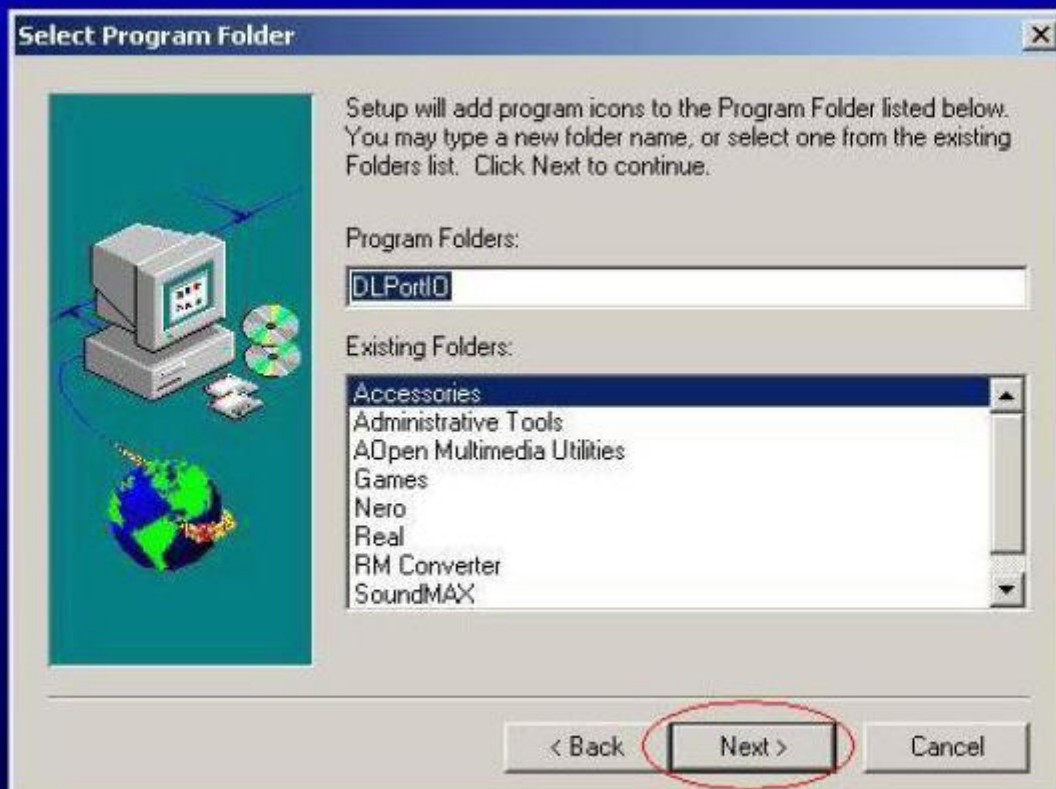

Fig. 0.4
0.4 Keep on press “ Next “ 4 times to go through the installation processes, see Fig. 0.4